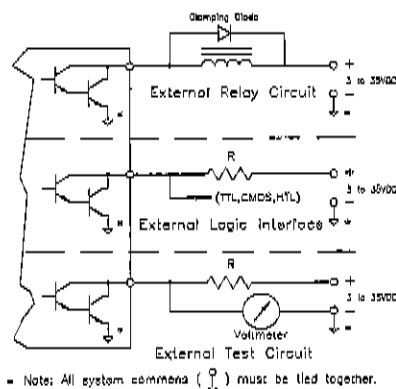

Figure 8
Figure 8 illustrates some typical open collector external circuits.
- The Smart Sensor or Point IR Detector input consists of the standard three lead connections used with General Monitors' Field Devices (Black = Common, White = Signal, Red = +24Vdc). See figure 8 on page 10 of this manual.